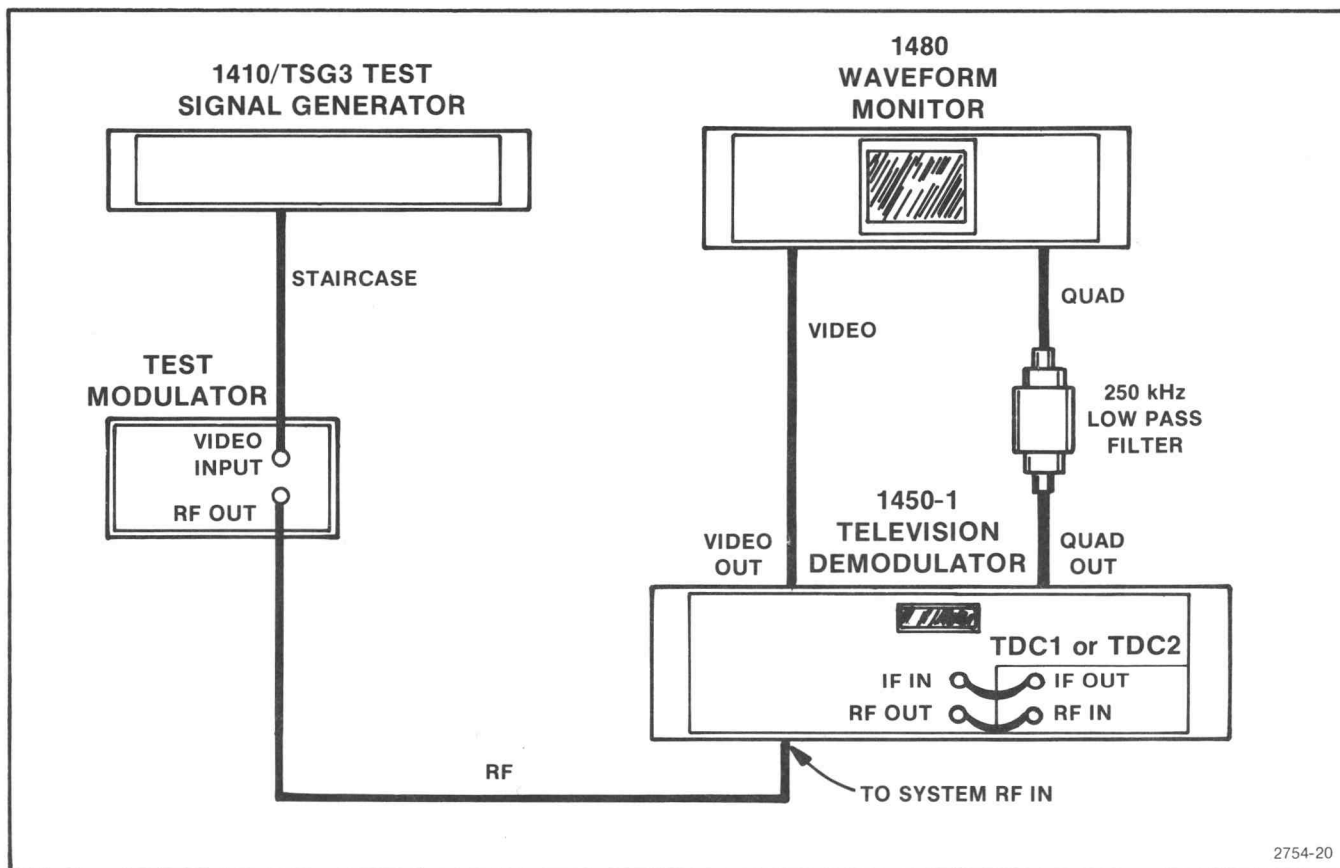

Fig. 4-9. Test Setup for Measuring Low Frequency Phase Noise.
a. Refer to Fig. 4-9. Drive the test modulator with a linearity staircase signal from a video test signal generator such as a TEKTRONIX 1410/TSG3/SPG combination. Connect the test modulator **rf** output to the 1450-1 (SYSTEM) **rf** input, and make the appropriate front-panel connections on the 1450-1 to complete the SYSTEM.